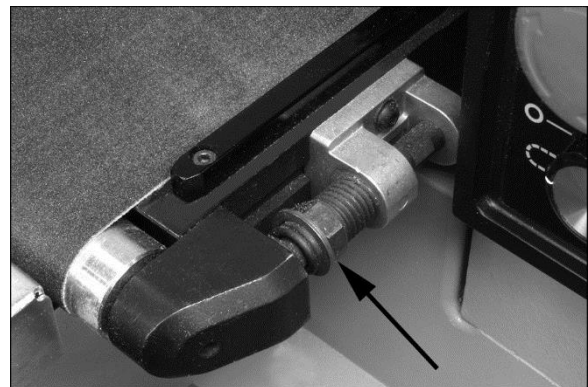

Figure 11
2. Adjust take-up screw nuts (Figure 11) with a 17mm wrench. Do this on both sides of conveyor to obtain approximately equal tension on both sides of sanding belt.
2. Turn on conveyor and set to maximum speed. Watch for a tendency of conveyor belt to drift to one side of conveyor. If it drifts, tighten or loosen take-up screw nut on *right side* of conveyor (Figure 11).